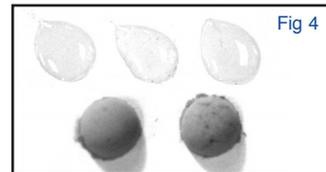

Fig 4
3. Place 2 level scoops of cement powder on a glass slab. Add gel in about a 3:2 gel-to-powder ratio (Fig. 4).